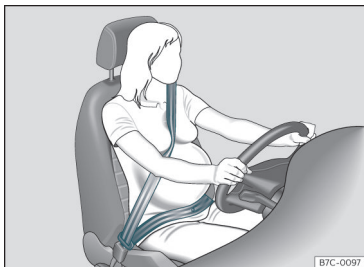

Fig. 80 Position of seat belt during pregnancy.
- For pregnant women, the lap part of the seat belt must lie as low as possible over the pelvis, never across the stomach, and always lie flat so that no pressure is exerted on the abdomen »» **Fig. 80.**